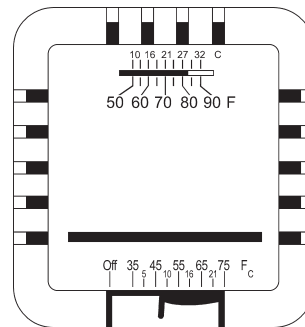

FIGURE 8. THERMOSTAT CONTROLS
- B. Set the thermostat to the OFF position. See Figure 8.